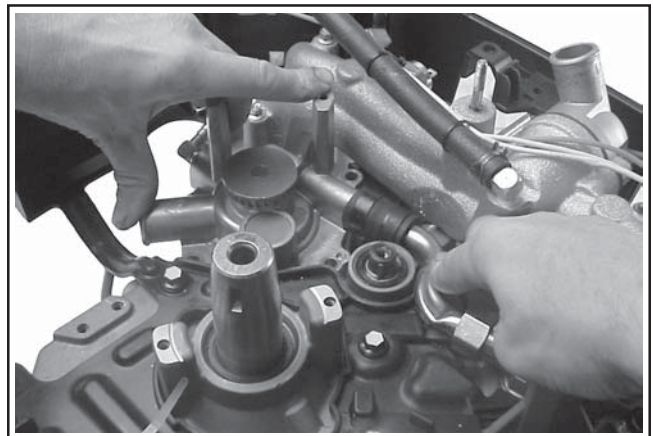

**Figure 11-63. Inserting Tube into Ferrule and Hex. Cap.**
- 2) Insert the plain end of the transfer tube through the hex. cap and compression ring. See Figure 11-63.